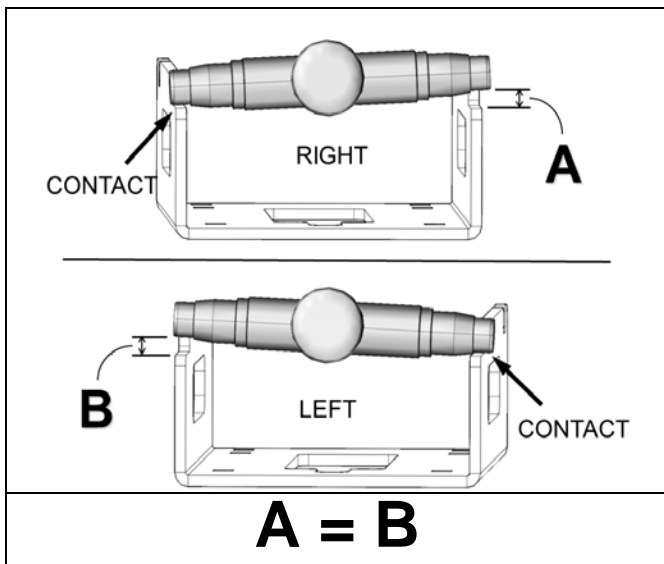

Figure 44
Check play by removing the two nylon tie wraps installed on the front wheel axle. Keep one end of the axle against the alignment tool, rotate tensioner assembly by hand and evaluate gap (A) between axle and tool. Check gap (B) on the other side. Total play must be distributed equally on both sides. Refer to Figure 44